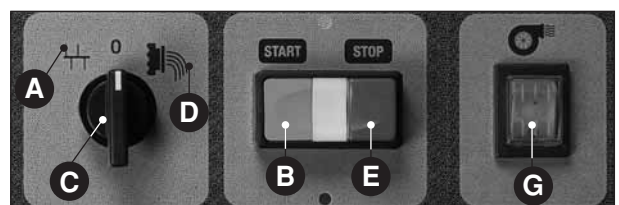

Fig. 11 - TR 75/E Panel
If the product is quite wet and tends to be sticky, it is best to dry the surface in any case, by switching on the fan (**Fig. 11 G**, only 75/E).
- stop the machine by switching the selector to the “0” position (**Fig. 11 C**) and then turn it on the kneading position **HH** (**Fig. 11 A**) for 10-15 seconds so that the pressure on the drawplate, caused by the product itself, is eliminated;
- switch the selector to “0” (**Fig. 11 C**) or push the Stop button (**Fig. 11 E**);
- In the “0” position (Fig. 11 C) all the elements of the machine have to stop; for model TR 75/E, in the “drawplate position” (Fig. 11 D) the mixer rotates in a clockwise direction and the Archimedean screw must rotate in the same direction (check through the slots in the lid); for model TR 70, on the other hand, in the “drawplate position” (Fig. 11 D) the mixer rotates in a counter-clockwise direction and the Archimedean screw must rotate in the opposite direction; in the “knead” position (Fig. 11 A) the parts must rotate in the opposite direction.